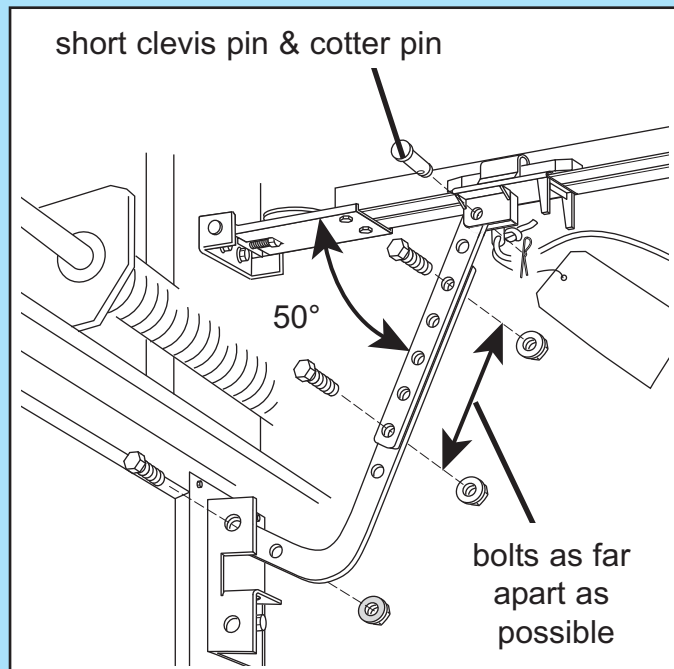

FIG. 2-9 Attaching door arms.
- Fasten short branch of curved door arm to door bracket using bolt and locking nut (**Fig. 2-9**).
- Fasten straight arm to carriage using clevis pin and cotter pin (**Fig. 2-9**).
- With the arms arranged in this position, fasten arms together using bolts and nuts spaced as far apart as possible (**Fig. 2-9**).